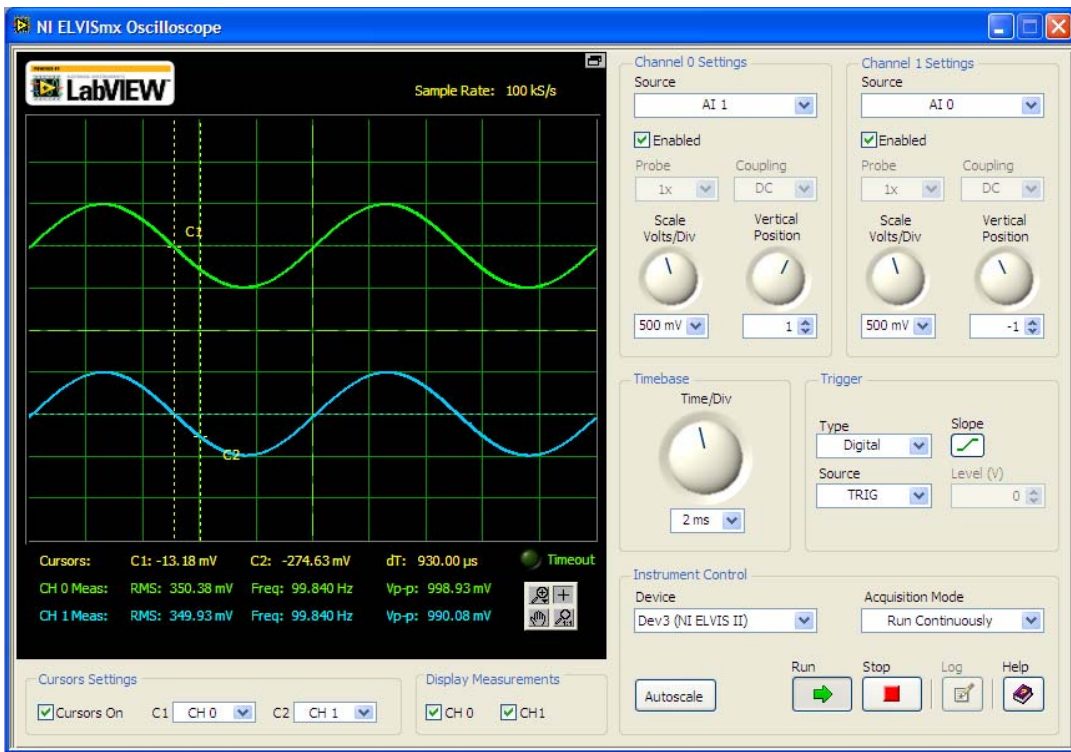

Fig. 16. NI Elvis Oscilloscope showing both input and output on two channels.
13. Cursors can also be used on the Oscilloscope SFP by clicking the Cursor button to ON. An example measurement using two cursors C1 and C2 to measure the phase shift is shown in figure 16.